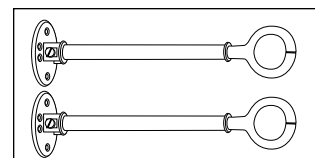

fig 2: Wall Flanges
- B. **The MYSON Wall-Mounted Towel Warmer** has been designed with integral wall flanges (fig 2). These will facilitate a permanent and secure mounting of the Towel Warmer to the wall. Make certain there is ample clearance on both sides of the Towel Warmer. The unit is supplied with the proper hardware for installation. Be sure wall construction is appropriate for hanging.